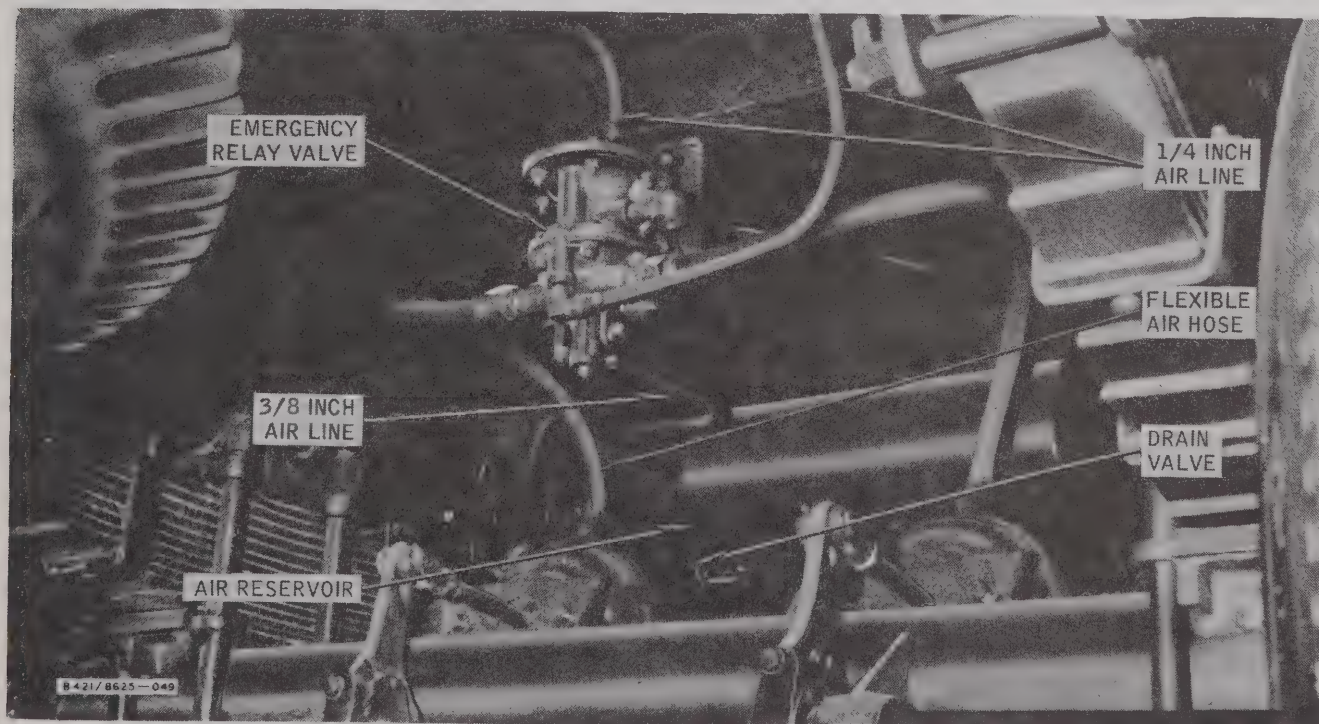

Figure 2-4. Brake System
d. Position the running gear (wheels, axle, and spring assembly) as illustrated in figure 2-4.
2-37. Position the brake system as illustrated in figure 2-4. Also, refer to the installation of brake system illustration in TM 11-5820-762-25P and perform the following procedure to install the van brake system: